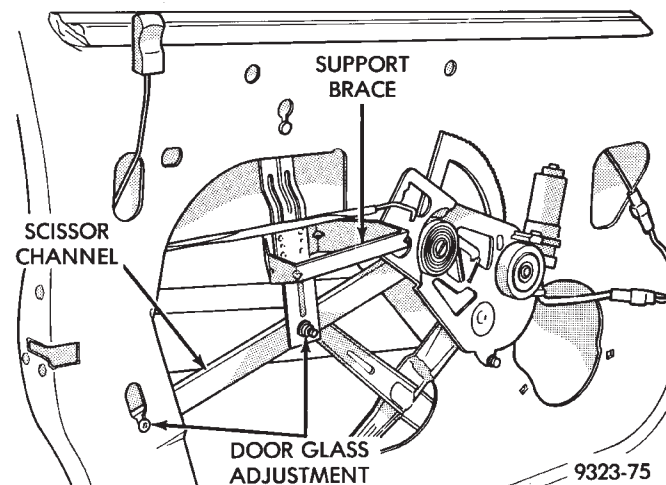

Fig. 81 Front Door Glass Adjustment
- (1) Remove door trim panel.
- (2) Loosen screw holding scissor channel to door panel at rear of access hole (Fig. 81).
- (3) Loosen bolt holding support brace to door panel above access hole.
- (4) Loosen nut holding the scissor channel to the support brace.
- (5) Position glass in run weatherstrips to achieve smooth operation and proper fit.
- (6) Secure all fasteners and install trim panel.